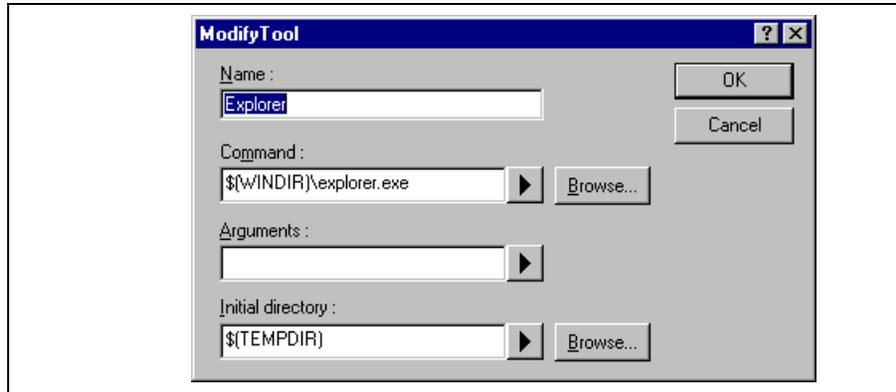

Figure 6.6: Modify Tool Dialog
3. Make the desired changes on the “Modify Tool” dialog * MERGEFORMAT (figure 6.6) and then click the “OK”.